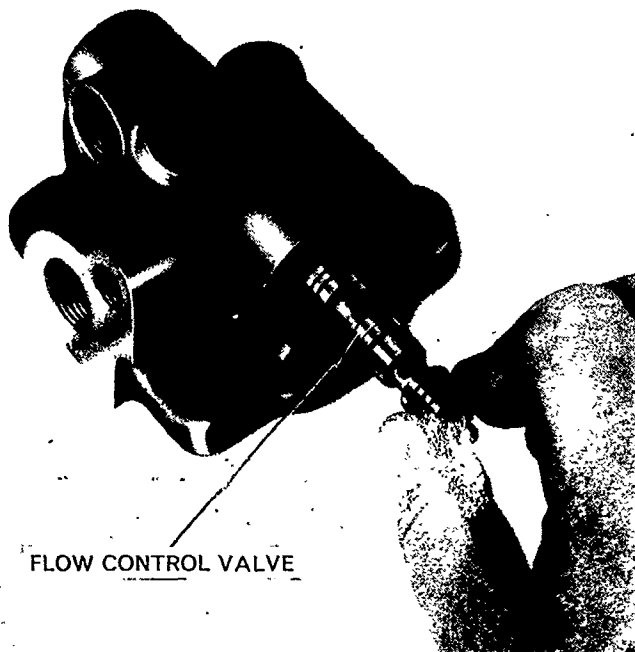

Figure 24
2. Install the control valve, spring and the end cover plugs, Figure 24.